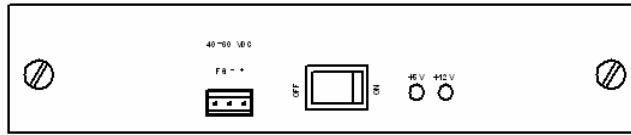

Figure 12 Panel of rack/DC DC redundant power supply
- The panel of RACK/DC DC redundant power supply is shown in figure 12.